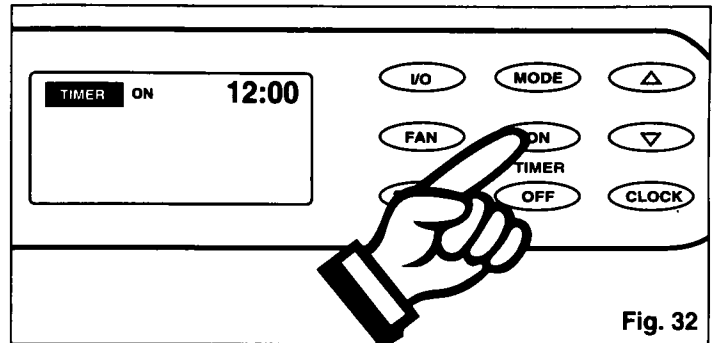

Fig. 32
- 7) Press the **TIMER-ON** key pad to initiate the **AUTO-ON** time sequence. *Fig. 32.* The display window will indicate **TIMER-ON** and the word **ON** will flash for 5 seconds. Press the Δ or ∇ key to select the desired **AUTO-ON** start time.
- 1) Press the **TIMER-ON** key pad to initiate the **AUTO-ON** time sequence. (Fig. 32). The display window will indicate **TIMER-ON** and the word **ON** will flash for 5 seconds. Press the \triangle or ∇ key pad to select the desired **AUTO-ON** start time. (Fig. 32a).